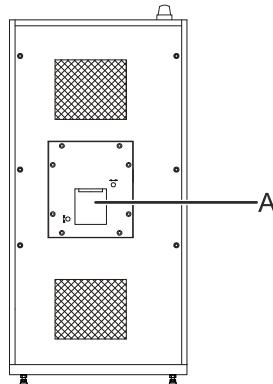

Figure 8: Beam shutter
- Manually operated beam shutter (see Figure 8, A) enables the beam exit from the laser housing to be closed.